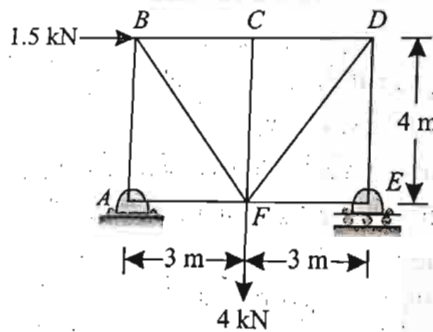

Fig. 9.36.
1. A truss shown in Fig. 9.36 is subjected to two points loads at B and F.